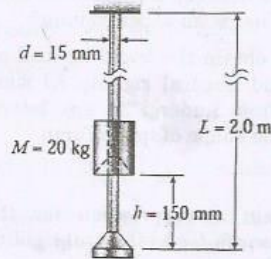

Figure 4
- (b) Determine the diameter d of a circular shaft subject to a bending moment M and a torque T , according to the theories of failure listed below. Use a factor of safety N . (13)
15. (a) A round, prismatic steel bar ($E = 210$ GPa) of length $L = 2.0$ m and diameter $d = 15$ mm hangs vertically from a support at its upper end as shown in Figure 4. A sliding collar of mass $M = 20$ kg drops from a height $h = 150$ mm onto the flange at the lower end of the bar without rebounding. (i) Calculate the maximum elongation of the bar due to the impact and determine the corresponding impact factor. (ii) Calculate the maximum tensile stress in the bar. (13)